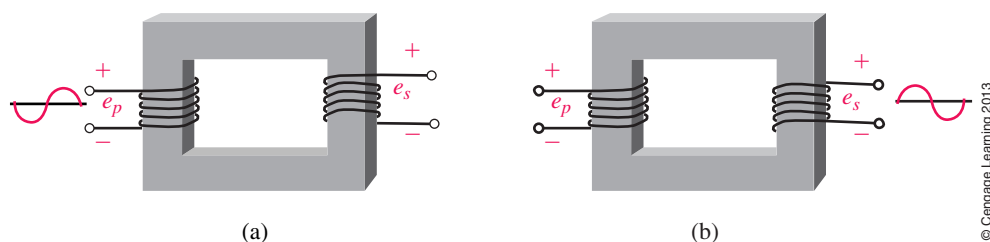

FIGURE 23–71
- For the transformers of Figure 23–71, sketch the missing waveforms.
- If $e_s = 100 \sin \omega t$, what is e_p when wound as in Figure 23–7(a)?
- If $\mathbf{E}_p = 24 \text{ V} \angle 0^\circ$, what is \mathbf{E}_s when wound as in Figure 23–7(a)?